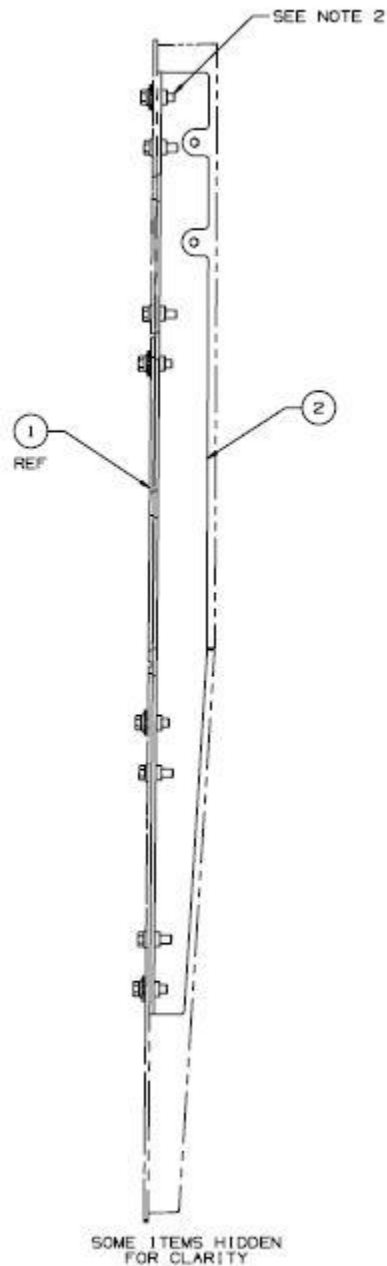

FIGURE 2: SHOWN WELD DETAILS FOR REWORK
9. See welding details (Appendix A) for latch bracket (PN: 03-31-2552). Follow weld details shown in Figure 2.